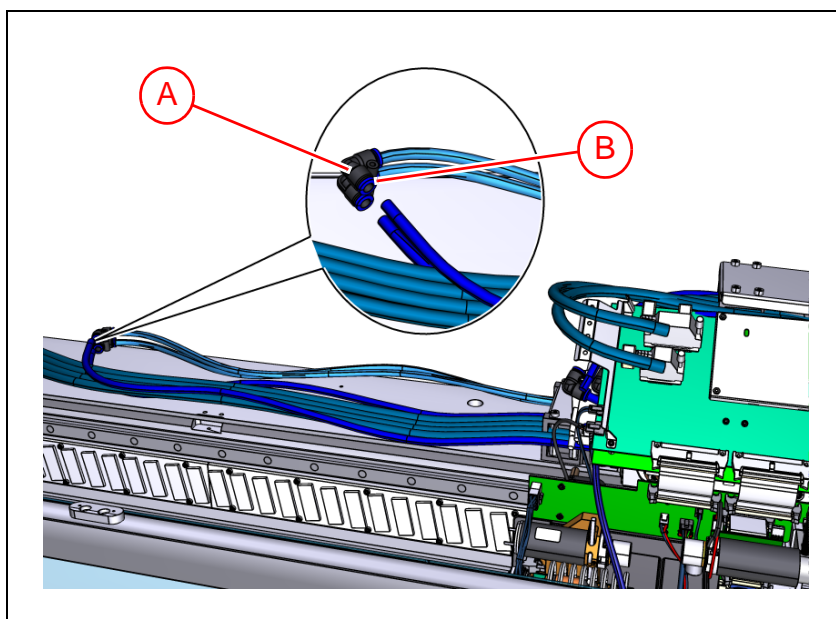

Figure 5-30. Disconnect the vacuum and pressure hoses.
16. On top of the X beam, connect the vacuum and pressure hoses in the hose fittings. See Figure 5-30. Refer to the markings on the hoses to ensure that they are connected correctly.